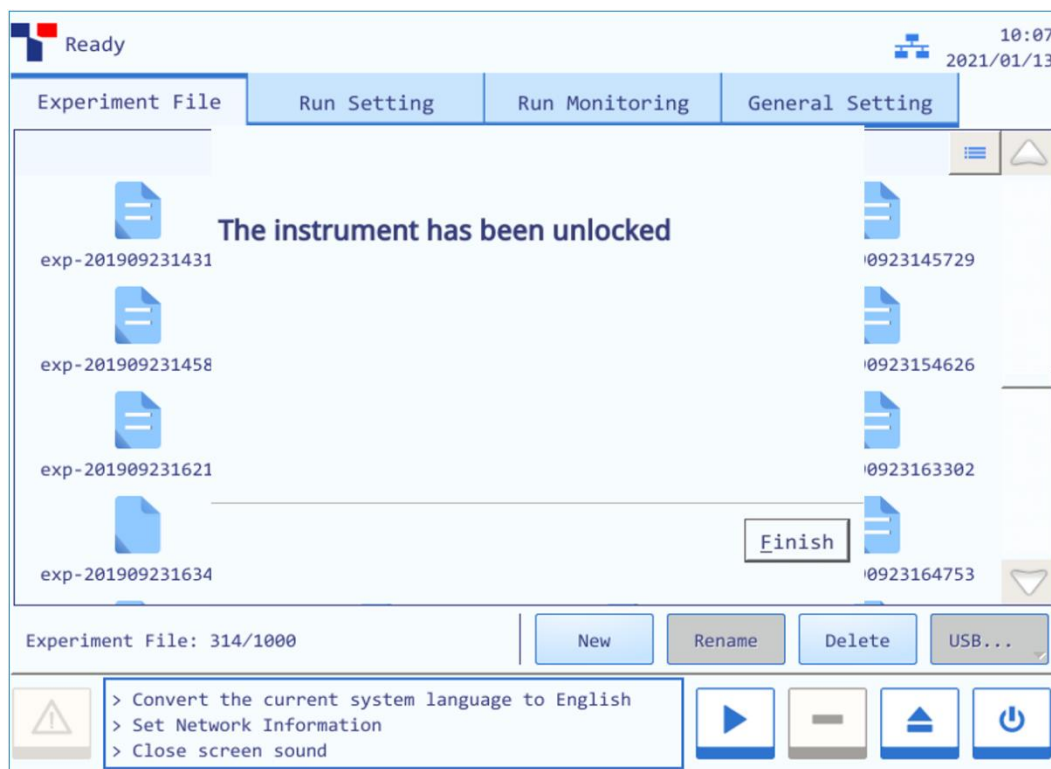

Figure B-6. Instrument System Software - Unlock Gentier Instrument (3)
**3rd step:** press < **Unlock** > and the mechanical parts of the Gentier instrument will automatically move and reset. After the instrument is reset, press < **Next** > and the instrument system software will prompt user the instrument has been unlocked, as shown in figure B-6.